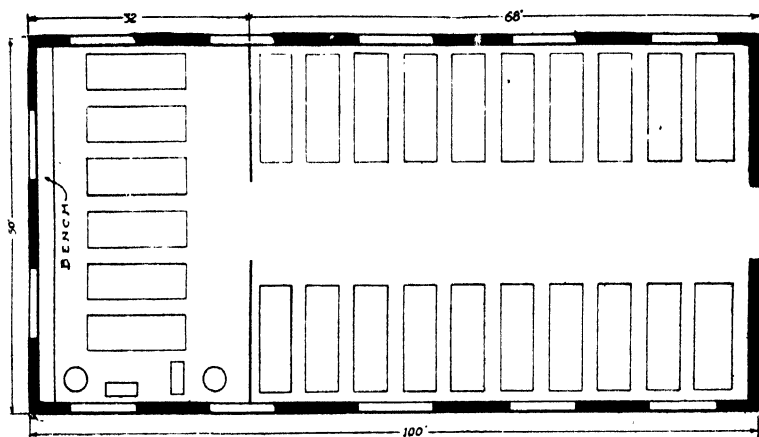

Fig. 3. Average Arrangement of Small Garage (50 x 100) to House 27 Cars
**Typical Arrangements.** *Layout 1.* Let us see how this space can be arranged to the best advantage. In Fig. 3 is shown a layout in which the cars are arranged along the two walls at the front part of a 50 x 100 building, but the last 32 feet of this space have been partitioned off into a form of repair shop, with a bench along the rear wall and a few tools in one corner. This layout provides no office and no locker space, but just the bare storage room, with a